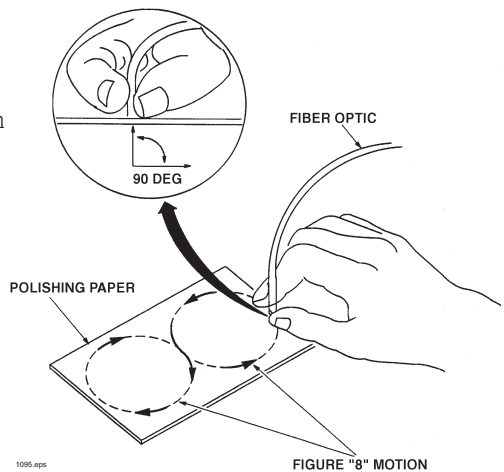

Figure 2. Pattern and orientation of the optical fiber during polishing.
2. Wet the 2000-grit polishing paper with water or light oil and place it on a flat, firm surface. Hold the optical fiber upright at right angles to the paper, and polish the fiber tip with a gentle "figure-8" motion as shown in Figure 2. You may get the best results by supporting the upright fiber against some flat object such as a portion of a printed wiring board or square block.